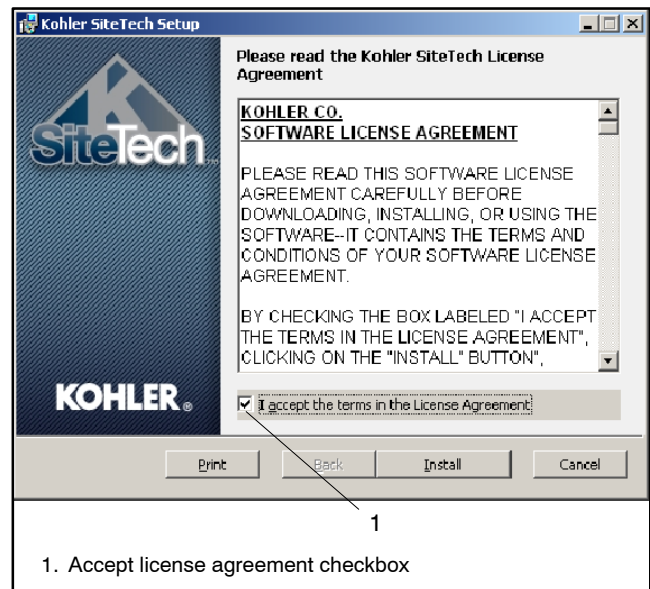

Figure 2-1 License Agreement Screen
1. The software license agreement screen will open. Read the agreement, and then click the checkbox to accept the terms. See Figure 2-1.